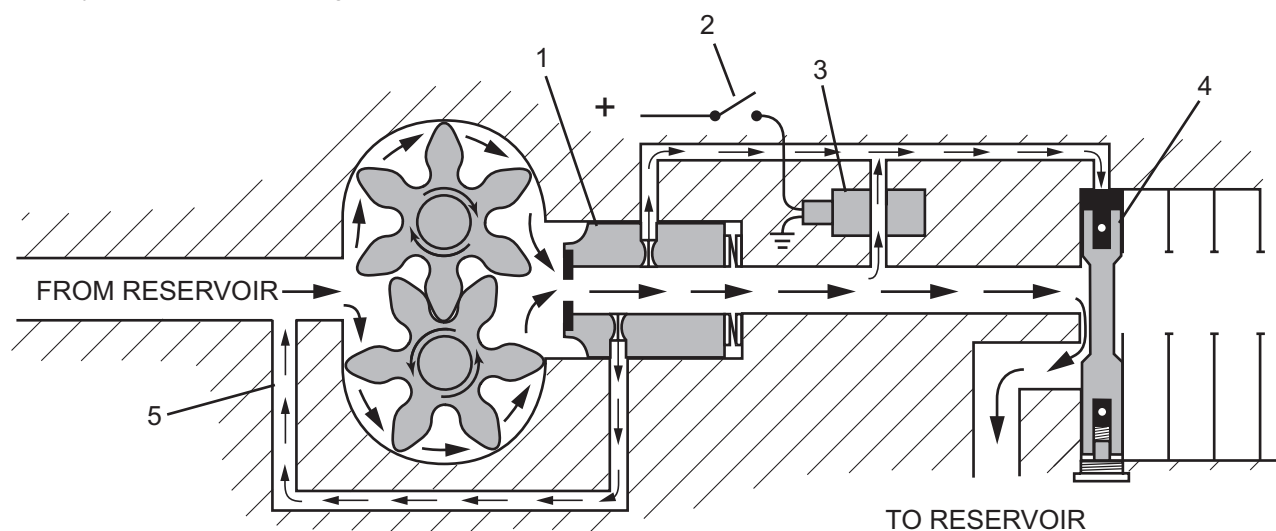

Figure 24
- Flow control shifts (Figure 24, Item 1)
- Pump switch OFF (Figure 24, Item 2)
- N.O. valve in OPEN position (Figure 24, Item 3)
- Inlet unloader valve in UNLOADED position (Figure 24, Item 4)
While driving the truck when the pump flow exceeds the flow control setting, the flow control will shift directing up to 15 gpm of additional oil to the suction side of the pump. This normally happens at an engine rpm of 1400-1600. The additional oil (Figure 24, Item 5) along with the normal oil supply through the suction line will provide adequate oil delivery to the pump preventing cavitation.